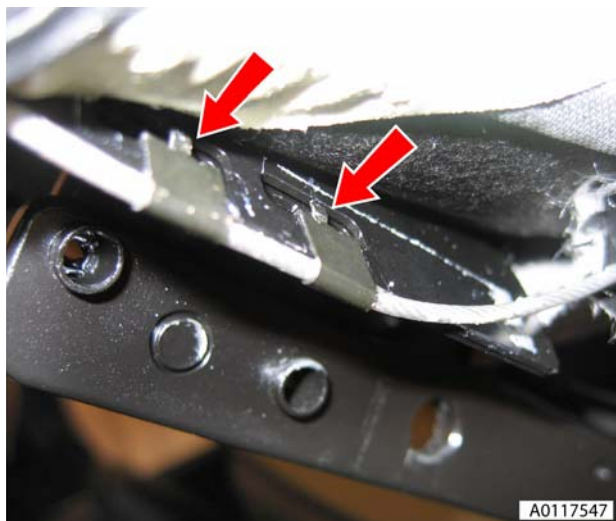

Figure 7
- 12. Release clips (x4) securing tension cables to header rail (see Figure 7).